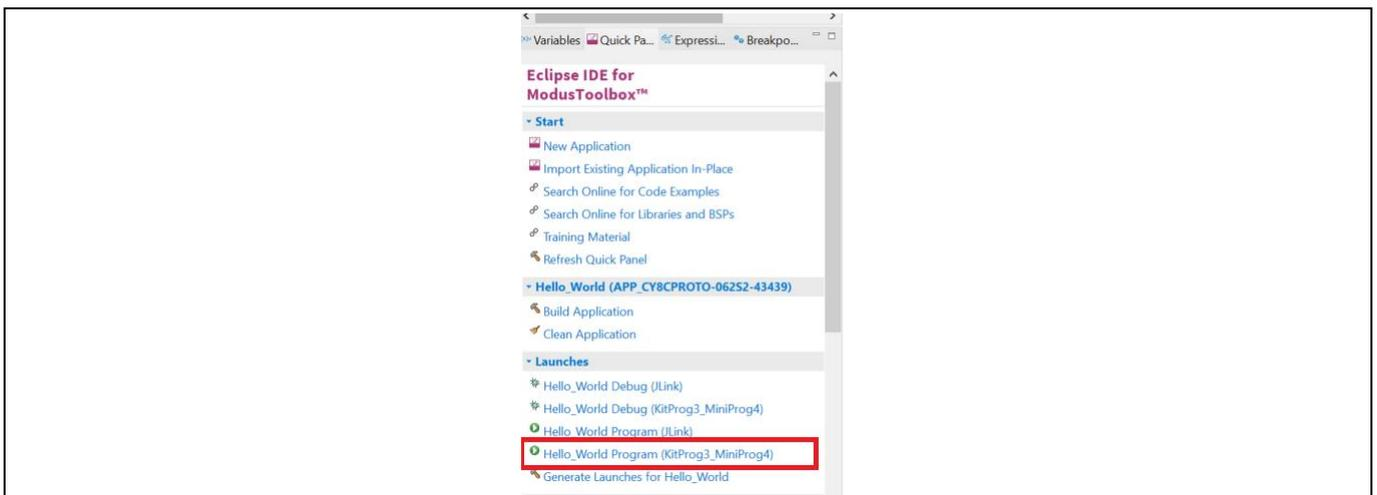

Figure 7 Programming in ModusToolbox™
4. To build and program a PSoC™ 6 MCU application, in the Project Explorer, select **<App_Name>** project. In the Quick Panel, scroll to the **Launches** section and click the **<App_Name> Program (KitProg3_MiniproG4)** configuration as shown in Figure 7.